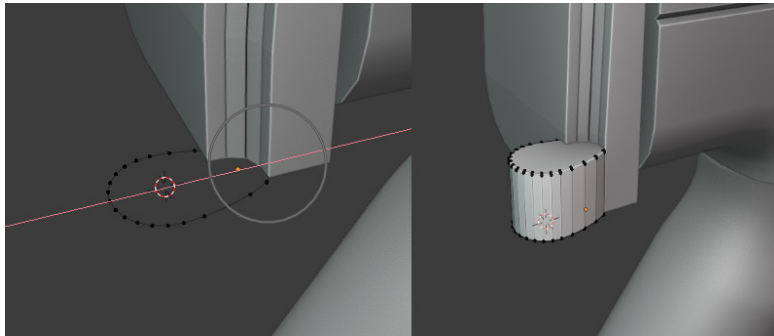

Figure 3.57 – Proportional editing circle (left), stock connector shape (right)
- Create a circle at the bottom of the bevel and change its shape with proportional editing. Extrude the shape upward to add some thickness to it, like in *Figure 3.57*.